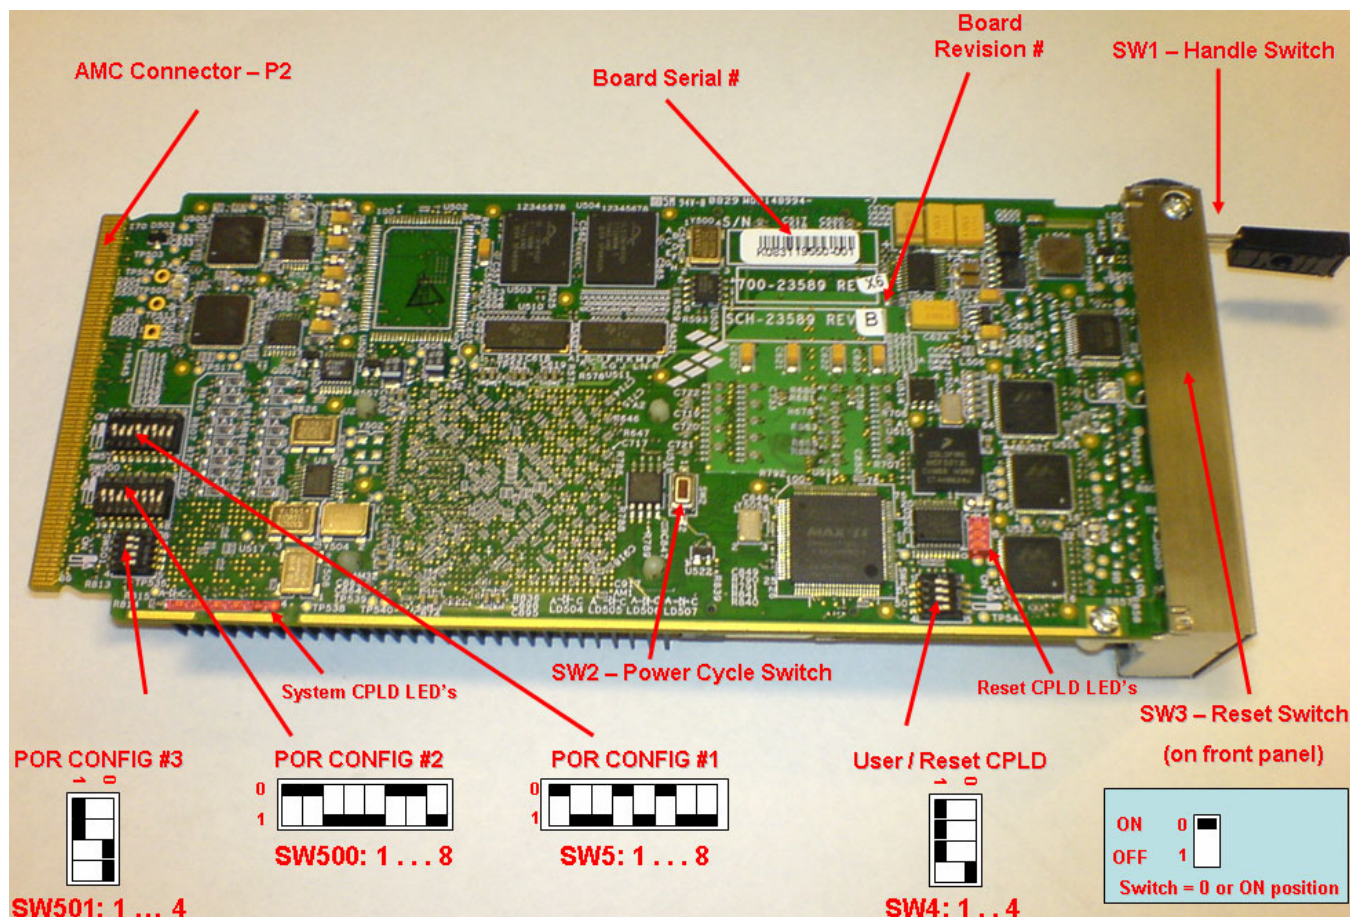

Figure 2. Secondary Side Switch Positions
2. The MPC8572EAMC board has three push button switches (SW1, SW2 and SW3), four Dual In line Package (DIP) switches (SW4, SW5, SW500, and SW501), and eight jumper headers (J1–J7 and HD1). The default DIP switch positions provide Power On Reset configuration values for the MPC8572EAMC board. Check the default positions and verify the board is operational before changing the switches. The settings for the switches are shown in Figure 2, with their default positions as described in Table 2. Table 6 gives a full list of all possible switch configurations.